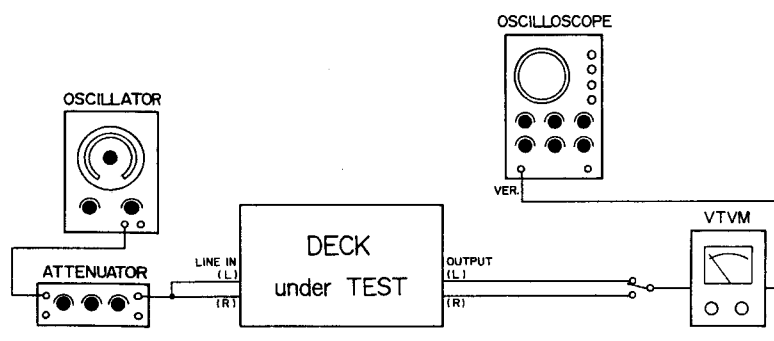

Fig. 12-1 SPECIFIED RECORDING LEVEL
1. Make the connections as illustrated in Fig. 12-1.
1. Connect the deck under test as illustrated in Fig. 12-1.